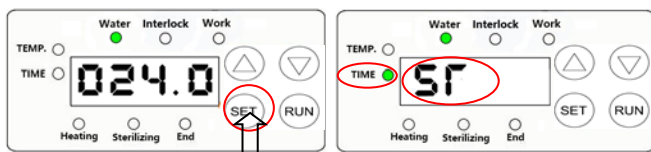
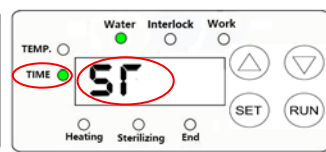
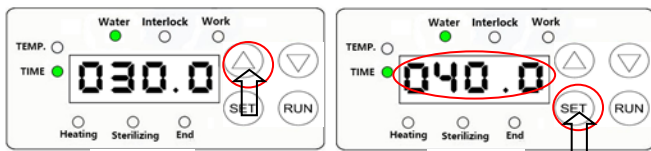
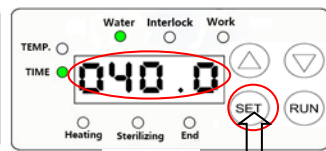

Figure 13
Figure 14
Figure 15
Figure 16
② Set the sterilization time: press the set key on the control panel (Figure 13), the sterilization time indicator lamp on the panel lights up, and ST appears in the display screen (Figure 14). Press the up and down keys   (Figure 15) to adjust the required sterilization time value. After the adjustment, press the set key twice to store and confirm the new sterilization time data (Figure 16).